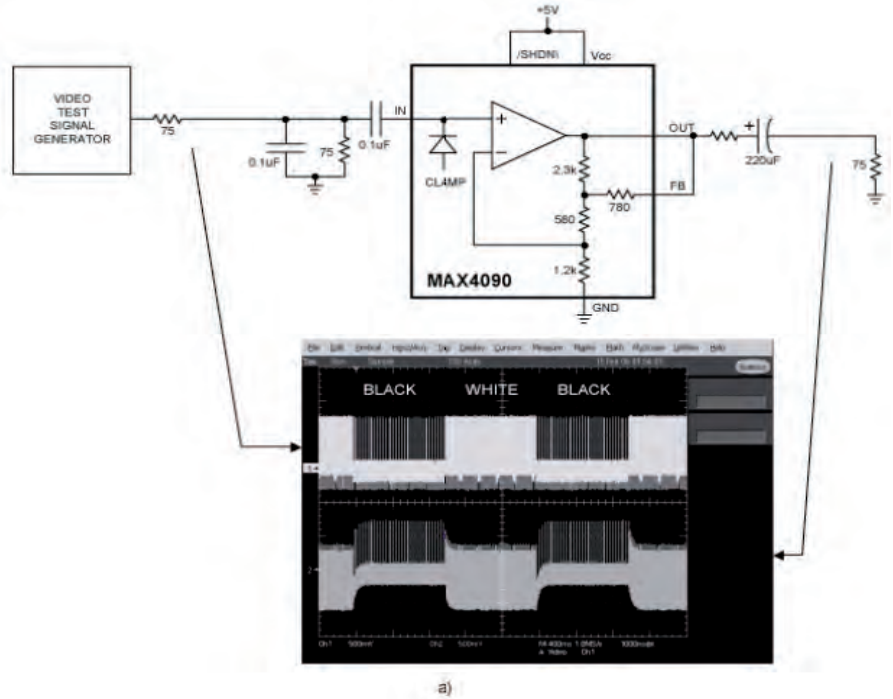
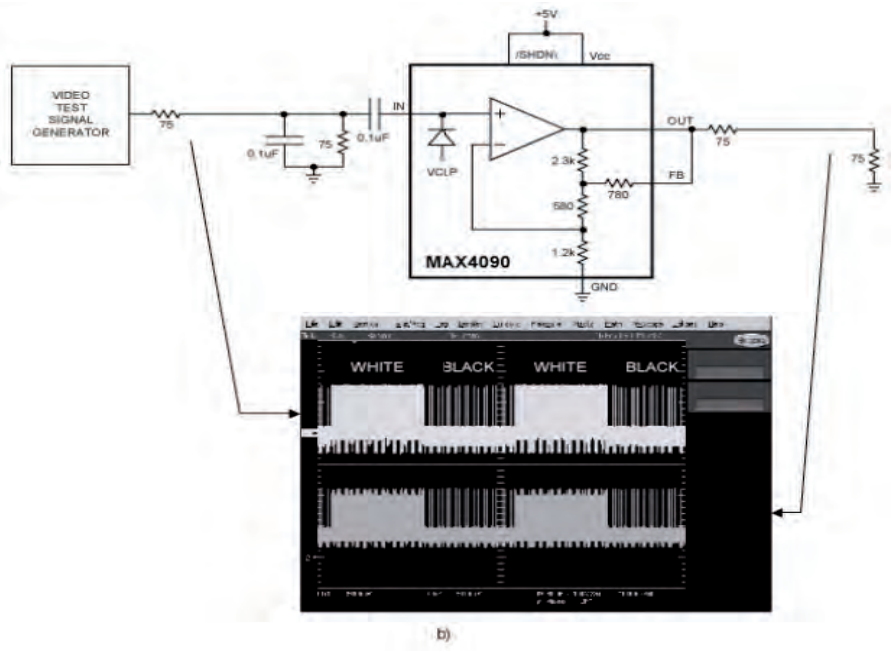

Figure 1a. AC-coupled output connection.
Figure 1b. DC-coupled output
For analog video circuits, the question of whether or not to design an AC-coupled output depends as much on company policy and industry standards as technology and cost. An AC-coupled output includes a series capacitor (Figure 1a), while a DC-coupled output does not (Figure 1b). A designer new to video output circuits may find such a choice confusing because adding a capacitor to the output path increases cost, requires space, and distorts the video signal. However, the choice may have already been made due to historical, technical, or economic reasons.
miniaturize is just as intense. Companies, even some with a long history of designing video equipment, are now opting for DC-coupled video connections (Figure 1b). The main difference to note with a DC-coupled output is that the signal has a positive DC bias due to the fact that most systems have eliminated negative supplies. In order for the amplifier to remain in a linear mode of operation, the output signal must be biased between ground and the positive supply.
2Just as in Figure 1a, there is a 0.1 $\mu$ F capacitor across the 75 input-termination resistor to ground for the same reasons. Without the 0.1 $\mu$ F capacitor, the aliasing during the black portion of the video test signal would make the black portion look the same as the white portion.
**Figure 8** shows a Regulate video test signal applied to the MAX9503. Notice how the blank level of the output waveform is held near ground and that there is no field time distortion, in contrast to the normal AC-coupled waveform shown in Figure 1a. The Regulate test signal at the MAX9503 output maintains a much more well-defined output voltage range than that from an AC-coupled connection.